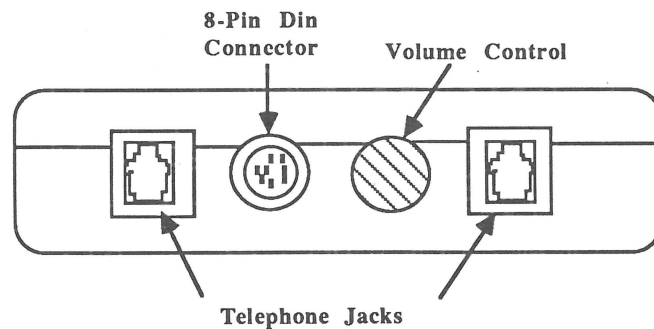

FIGURE 2
1. Turn the volume control clockwise (see Figure 2), and try plugging in the modem again.